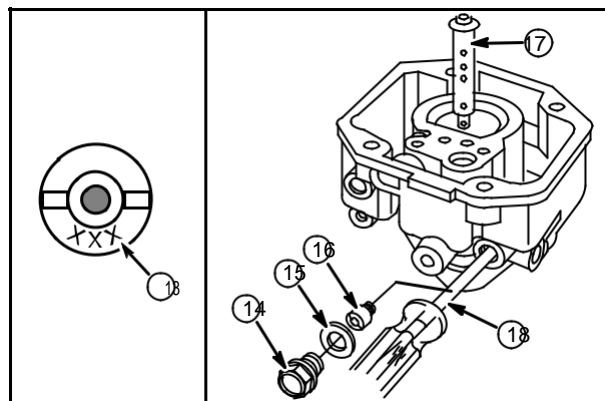

Fig. 109
Install fixed main jet (16) with Jet Screwdriver #19062 (18), **Fig. 109**.